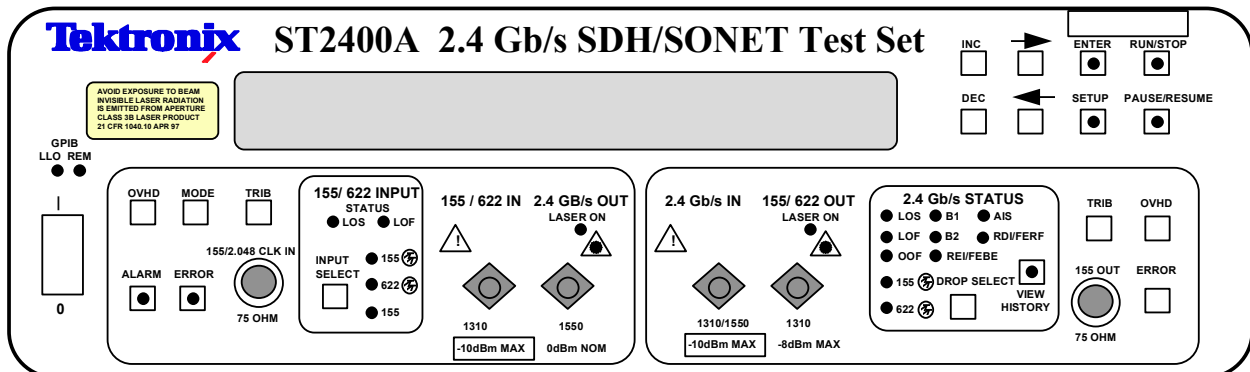

Figure B-1. ST2400A front panel - Transmitter (left-side) and Receiver (right-side)
7. Using the LEFT/RIGHT cursors, select ON and then press ENTER. *Note: On the transmitter side of the front panel, the red LED under LASER ON is now lit. Refer to Figure B-1 to identify the transmitter and receiver side of the front panel.*